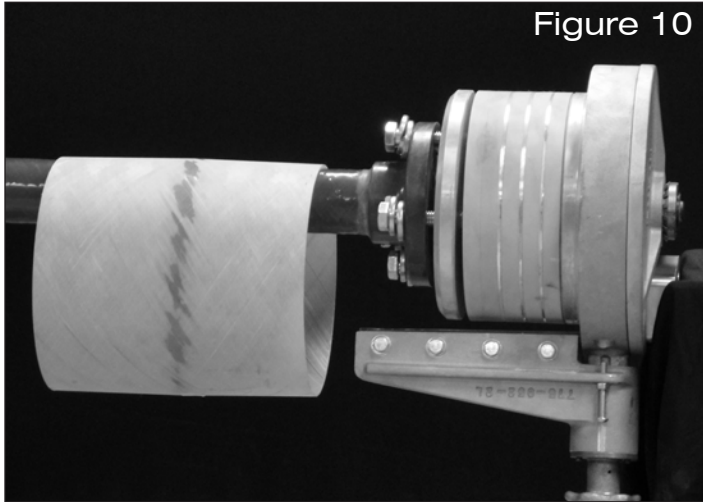

Figure 10
33. Weld a length of 2" steel pipe to a 2" 150 lb. steel flange. Bolt the steel flange to the expansion end plate (four threaded holes in end plate). The nipple to be tapered should be put over the steel pipe and onto the mandrel. Clamp the steel pipe in the vise. The steel pipe holds the mandrel, and the mandrel will hold the pipe for tapering. (See Fig. 10.) Set up the tapering tool as shown in Fig. 10 and follow steps 15 through 32.